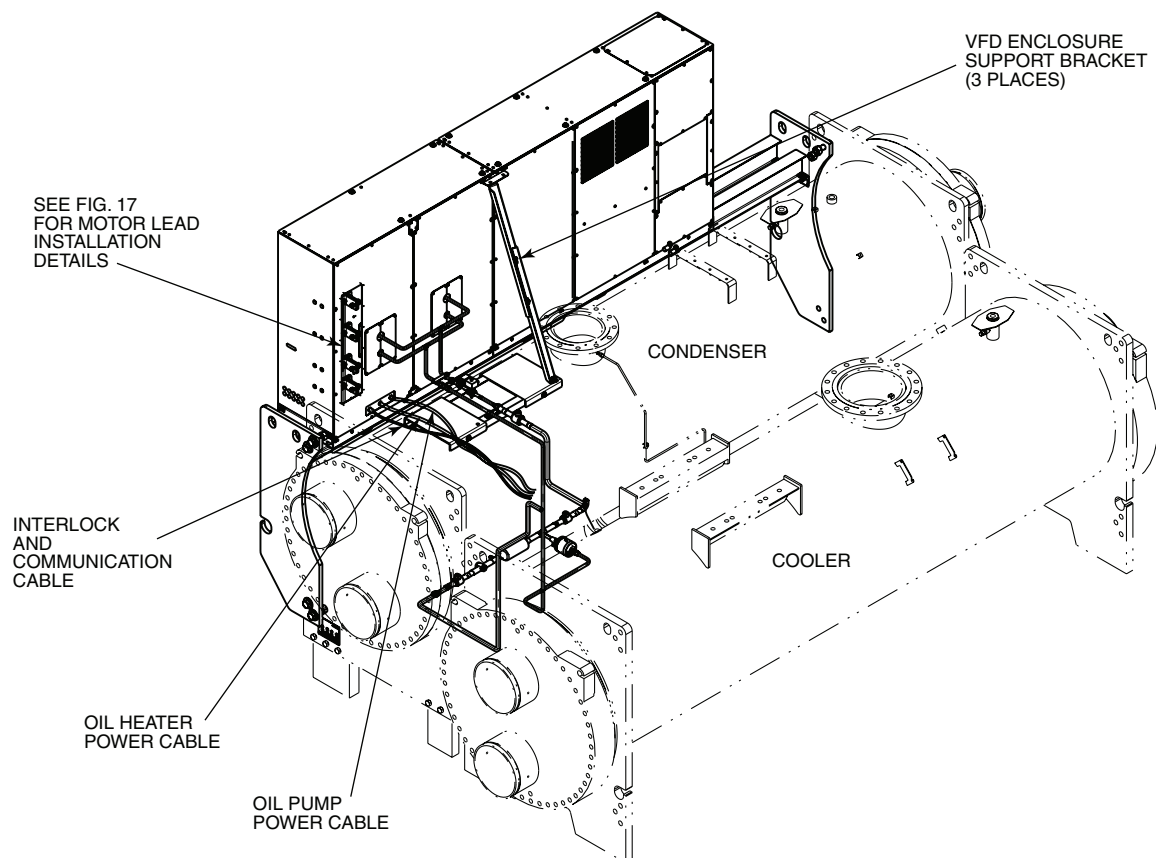

Fig. 14 — 1169A VFD Installation
2. Remove any conduits that bring power to the VFD. See Fig. 14.
6. Disconnect the power cables, interlock cable, and communication cable between the VFD enclosure and the power panel. See Fig. 14.